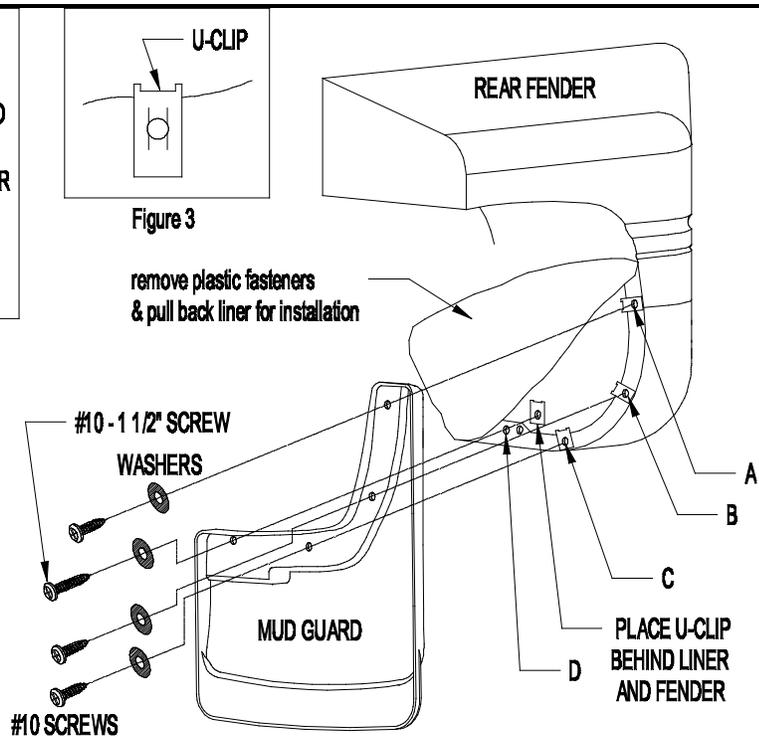

Figure 1
2. Remove existing plastic fasteners from locations A, B, C, & D by cutting off the heads of the fasteners and pushing the remaining piece through the liner attachment hole (Figure 1).
3. Pull back fender liner to expose attachment holes (Figure 1).
5. Place mud guard between fender and fender liner and install a #10 3/4" screw and washer through fender liner, mud guard, U-clip and fender tab at locations A, B, and C (Figure 1 and 2).
6. Install #10 1 1/2" screw and washer at location D, place the U-clip on the backside of the liner (DO NOT PLACE OVER THE FENDER) (Figure 1 and 4).